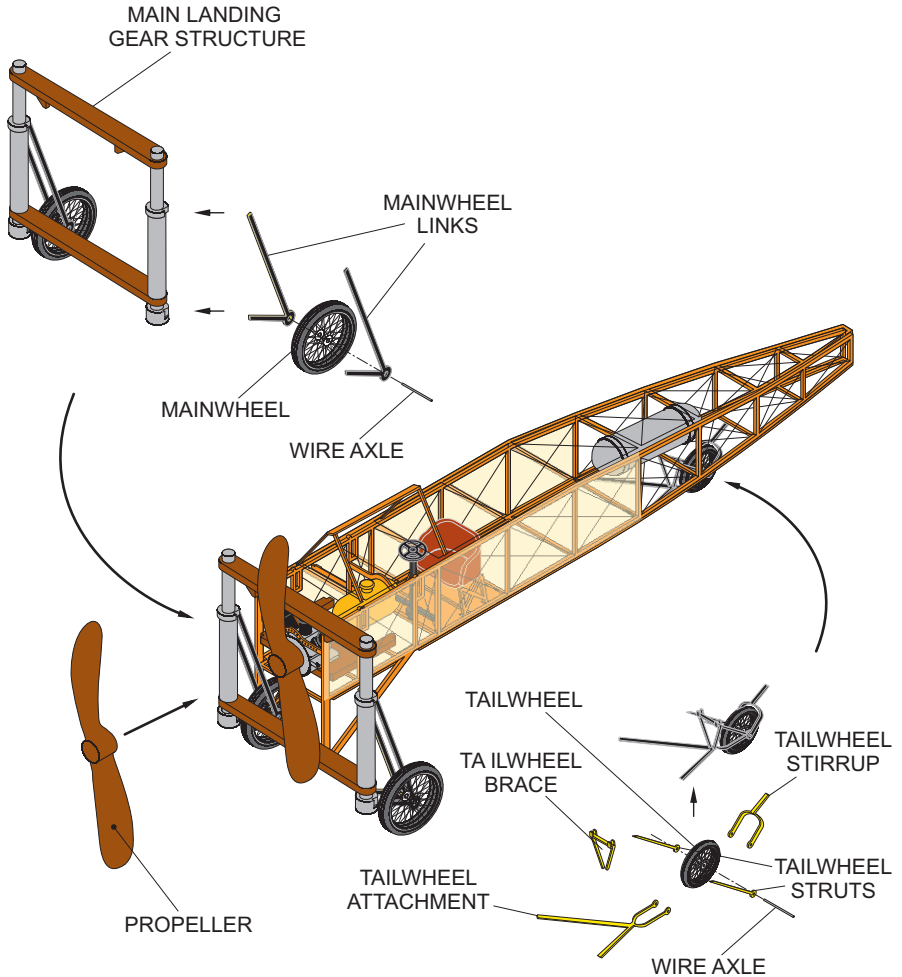

Figure 5
- B Attach two mainwheel links to each vertical strut of the main landing gear structure, then put a wire axle through these links and a mainwheel (see Figure 5).